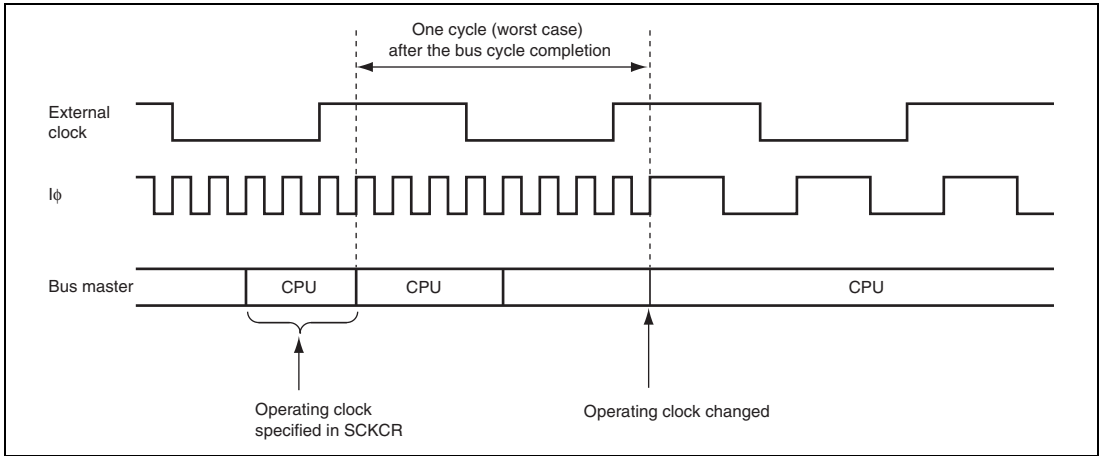

Figure 19.5 Clock Modification Timing
4. Figure 19.5 shows the clock modification timing. After a value is written to SCKCR, this LSI waits for the current bus cycle to complete. After the current bus cycle completes, each clock frequency will be modified within one cycle (worst case) of the external input clock.